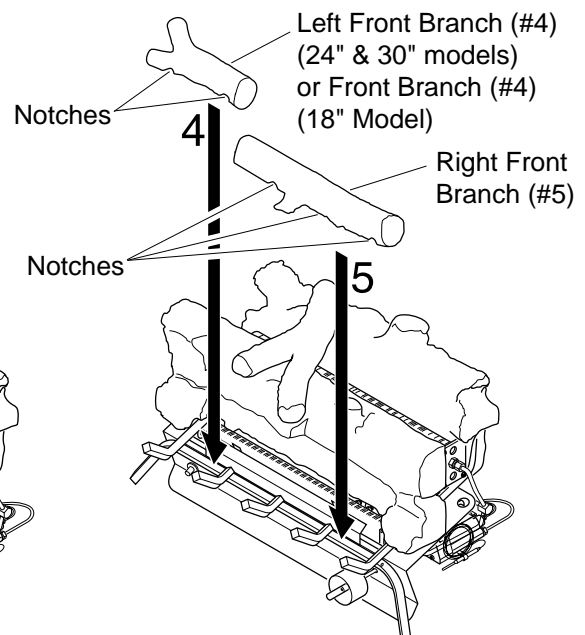

Figure 20 - Installing Left Front Branch and Right Front Branch
4. Place left front branch (#4) and right front branch (#5) (24" and 30" models) or front branch (#4) (18" model) into place (see Figure 20). Make sure notches on bottom rest on grates.